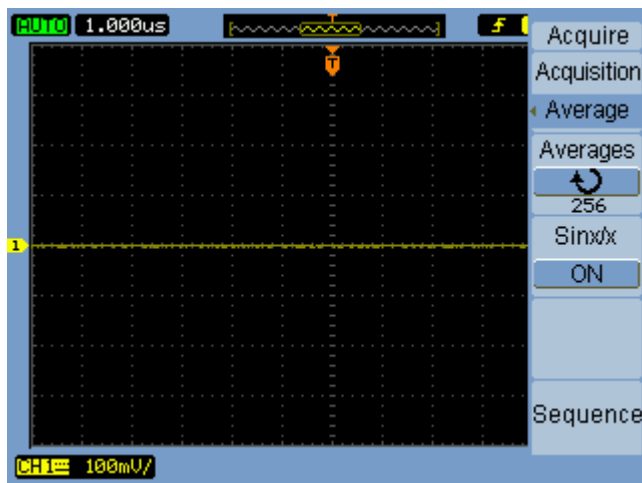

Figure 1 Averages Menu Item
- Figure 1. Averages Menu Item 17